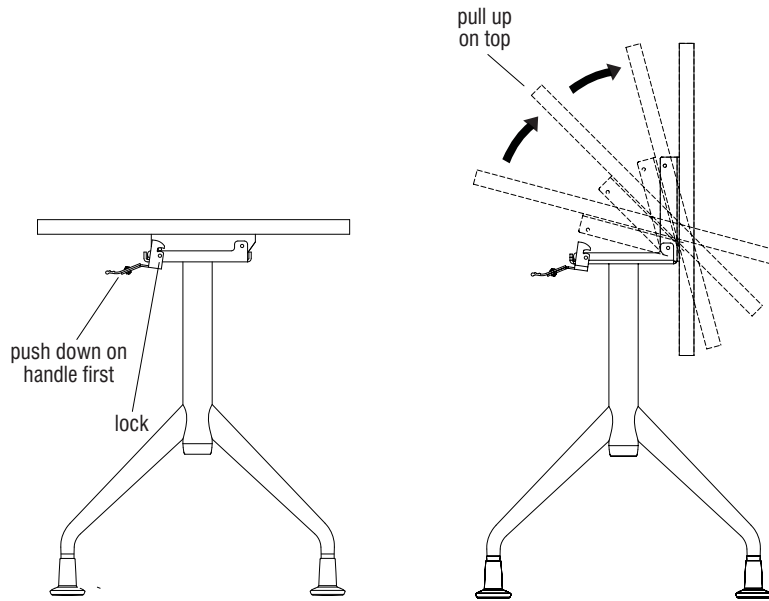

Figure 3
1. To rotate into storage position push down on the handle and lift top up until it stops (Figure 3).